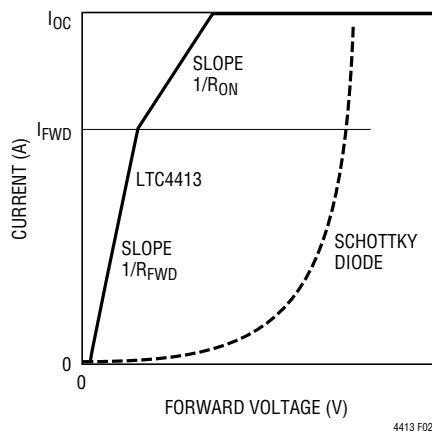

Figure 2
The LTC4413 is described with the aid of the Block Diagram (Figure 1). Operation begins when the power source at V_{INA} or V_{INB} rises above the undervoltage lockout (UVLO) voltage of 2.4V and either of the ENBA or ENBB control pins is low. If only the voltage at the V_{INA} pin is present, the power source to the LTC4413 (V_{DD}) will be supplied from the V_{INA} pin. The amplifier (A) pulls a current proportional to the difference between V_{INA} and V_{OUTA} from the gate (V_{GATEA}) of the internal PFET (PA), driving this gate voltage below V_{INA} . This turns on PA. As V_{OUTA} is pulled up to a forward voltage drop (V_{FWD}) of 20mV below V_{INA} , the LTC4413 regulates V_{GATEA} to maintain the small forward voltage drop. The system is now in forward regulation and the load at V_{OUTA} is powered from the supply at V_{INA} . As the load current varies, V_{GATEA} is controlled to maintain V_{FWD} until the load current exceeds the transistor's (PA) ability to deliver the current as V_{GATEA} approaches GND. At this point the PFET behaves as a fixed resistor with resistance R_{ON} , whereby the forward voltage increases slightly with increased load current. As the magnitude of I_{OUT} increases further (such that $I_{LOAD} > I_{OC}$), the LTC4413 fixes the load current to the constant value I_{OC} to protect the device. The characteristics for parameters R_{FWD} , R_{ON} , V_{FWD} and I_{OC} are specified with the aid of Figure 2, illustrating the LTC4413 forward voltage drop versus that of a Schottky diode.